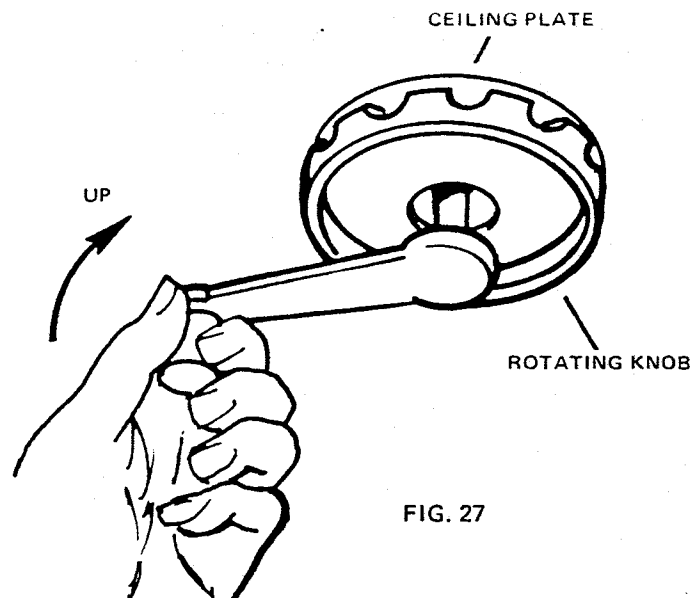

FIG. 27
**SET UP** — Turn the crank handle in the "Up" direction until some resistance is felt (FIG. 27). Plug the TV set's power cord into either 110 VAC or 12 VDC outlet. Turn on the power supply. The antenna power supply switch and light are part of the main antenna wall outlet.